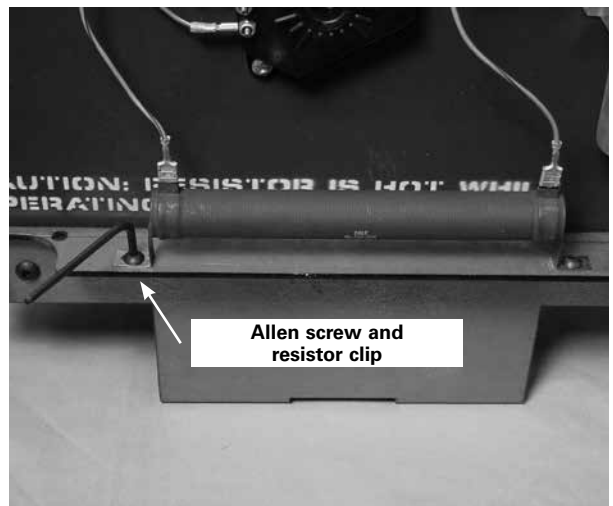

Figure 3. Removing the resistor clip fastener
- Use a 1/8 inch Allen wrench and remove the screw from one resistor mounting clips See Figure 3.